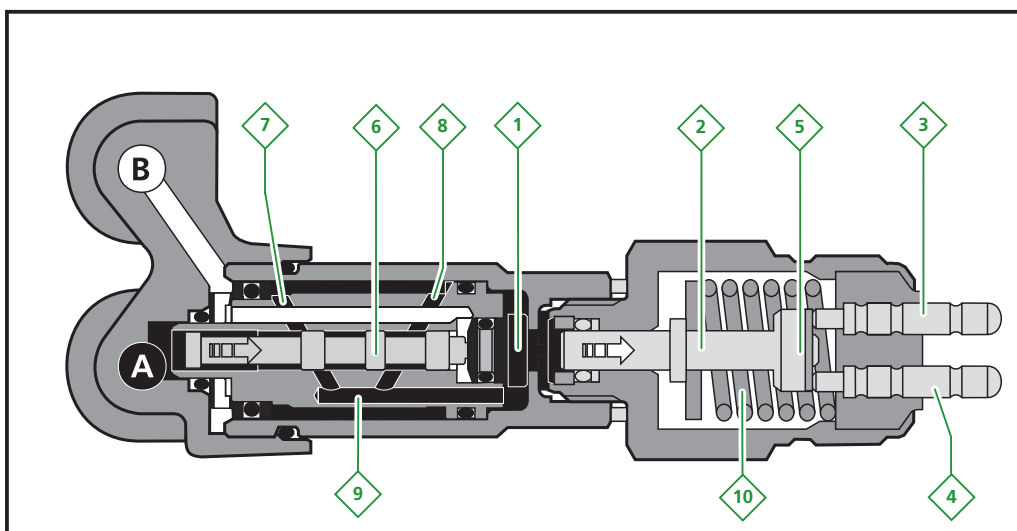

figure 3.8 Principle of operation of grease pressure switch - second phase
During pumping phase A grease is pressed into channel A (see figure 3.8). While the grease pressure is built up, piston (6) is pushed to the right. Chamber (1) is connected to channel A (through the channels 7, 8 and 9). As soon as the pressure in chamber (1) is more than the pressure force of the spring (10), plunger (2) goes to the right. The electrical contact (3 and 4) is closed by the contact plate (5).